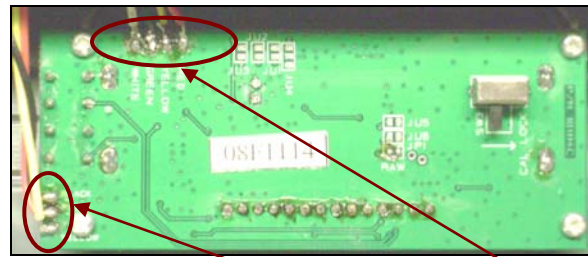

Figure 3-5. Power Cable and Load Cell leads, soldered to the Printed Circuit Board.
3. Unsolder the Load Cell Cable's leads and the Power Cable leads from the PCB. (See Figure 3-5.)